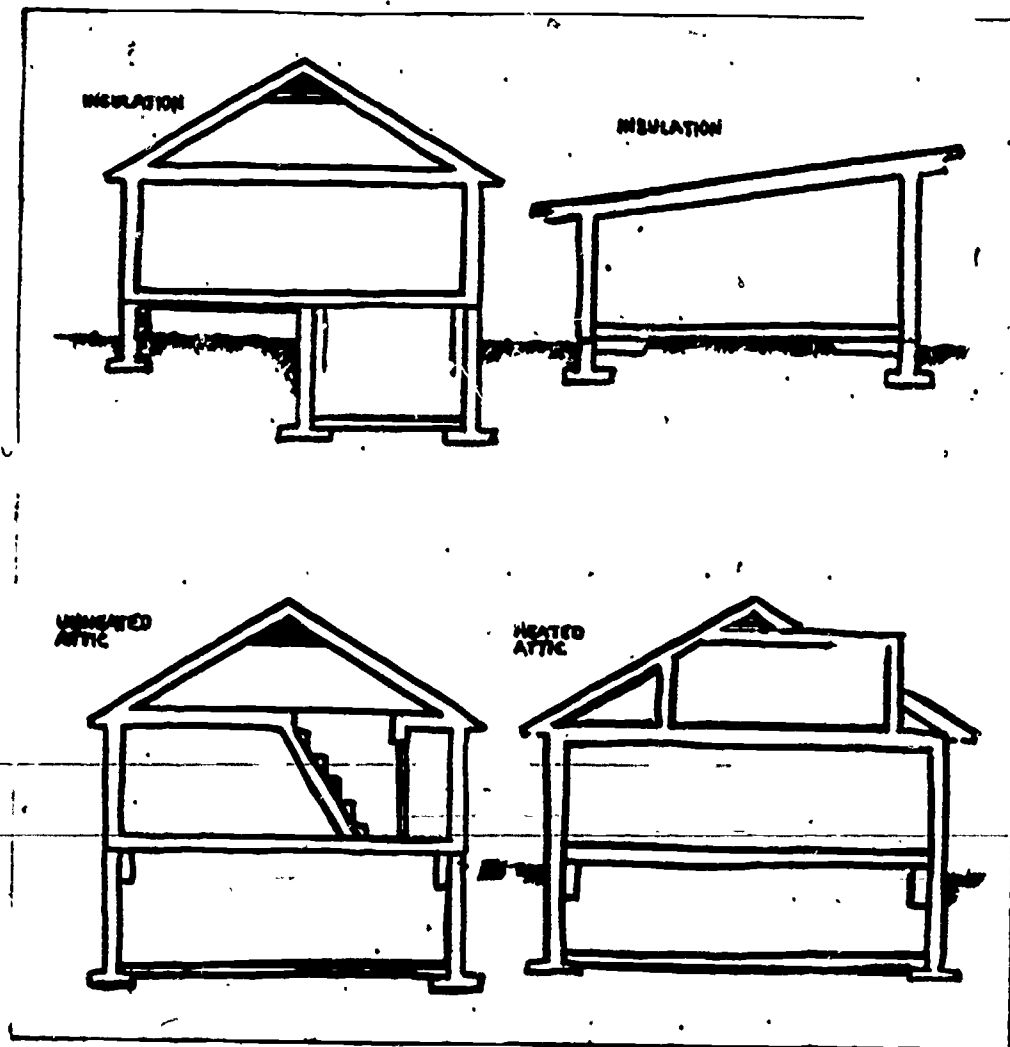

FIGURE 19 - ACTIVITY
9. In Figure 19, page 55, indicate type and location of insulation to be installed in the floor.